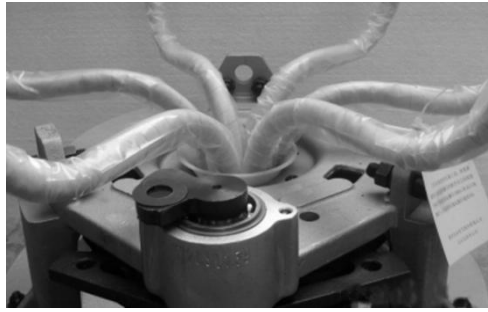

Figure 11
- (2) Remove the red paint mark locating member of the lock coupling on the tap selector. Do not rotate the coupler and the dial member (Figure 11).
When the tap-changer head flange is installed on the transformer cover, the mounting flange (see Appendix 7) and the oil-resistant gasket (Fig. 11) must be used.
- (2) Remove the red paint mark on the tap selector on the tap selector. Do not turn the coupler and the dial (Figure 11).
- (3) Remove the bolts on the tap selector holder (6 M12 hex socket bolts, 8th wrench) and prepare the connection between the diverter switch and the tap selector.
- (4) Lift the diverter switch oil chamber with the lifting plate (see Appendix 9), wipe the contact surface, align the two coupling parts, and slowly place them on the tap selector. Be careful not to touch the tap selector connector wire. Insulation. Fasten with 6 M12 bolts removed from the front.